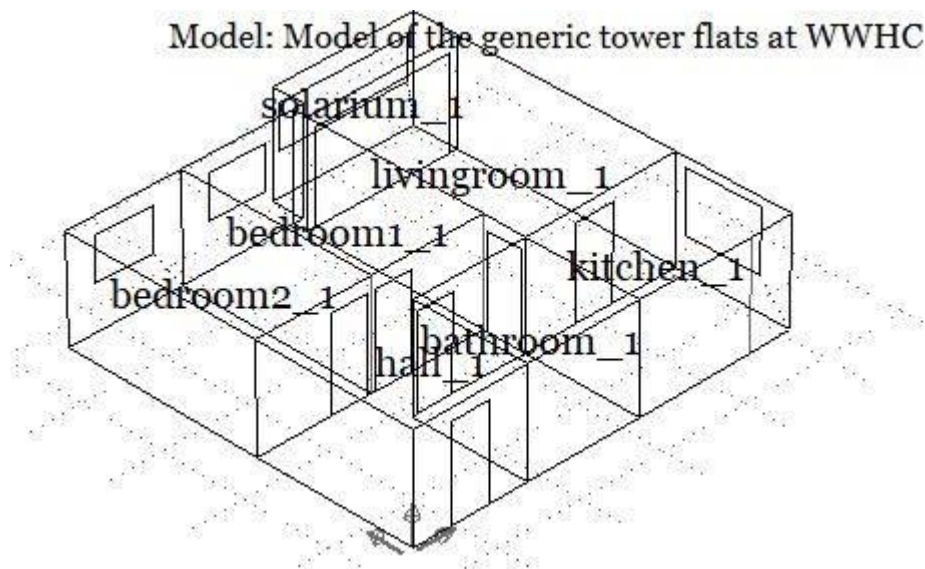

Figure 1: ESP-r flat model
This brief thermal imaging study was carried out as part of our project on the housing stock and community district heating (DH) system at the West Whitlawburn housing estate. The data was collected during a site visit, where access to three different high-rise flats was granted. Thermal imaging, Temperature and humidity of these flats and various other relevant areas was collected. This report focuses on the high-rise flats on the estate which have recently undergone extensive upgrades, and aims to identify any weaknesses in the upgrades and if there is scope for further potential upgrades. The current upgrades include an aluminium rainscreen, curtain walling, balcony enclosures, replacement windows, steel extension roof, roof cladding and improved piping insulation. A basic model of an individual flat is shown in Figure 1. The layout of the flats in the tower blocks are all almost identical. The ambient temperature and humidity of each room can be found in the Appendix.